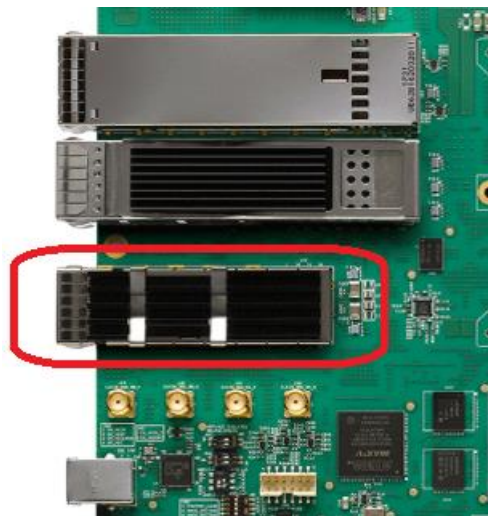

Figure 3. QSFPDD 1x1 optical transceiver cage
1. Connect the QSFPDD loopback module to the QSFPDD 1x1 optical transceiver cage on the Intel® Stratix® 10 TX Signal Integrity Development Kit as in Figure 3